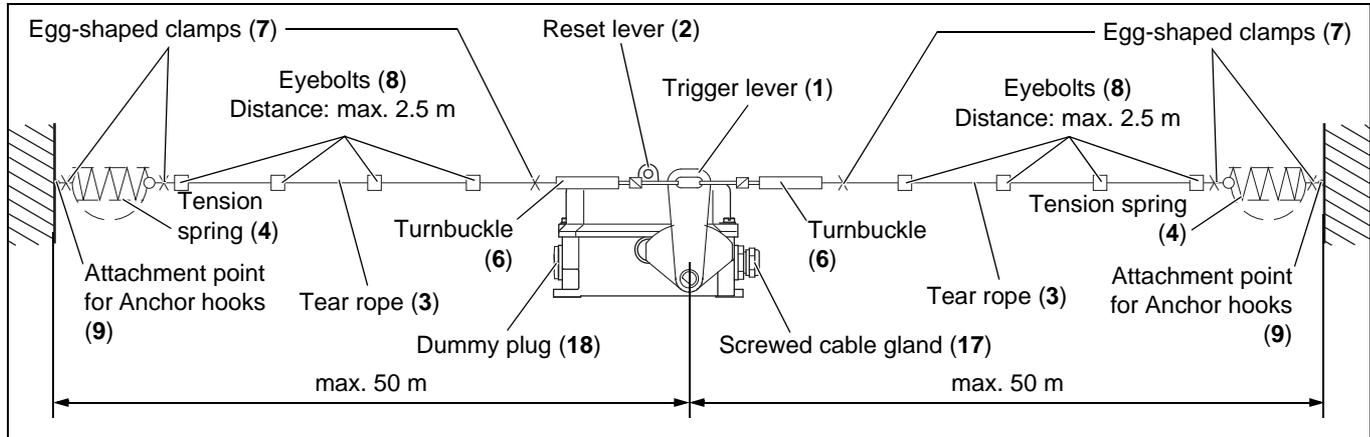

Fig. 5-7: Mounting on the conveyor structure
Centering the Trigger lever (1) makes it resistant to temperature changes. The Tension springs (4) compensate for any extension or contraction of the Tear rope (3) caused by temperature changes (see fig. 5-7).
11. Tighten the Tear rope (3) so that the Tension spring (4) is extended by 35 mm (see fig. 5-7).
12. Attach this end of the Tear rope (3) using an Egg-shaped clamp (7).
13. Remove the Turnbuckle (6) again. Unlock the pull-rope emergency stop switch by using the Reset lever (2) (see fig. 5-7).
14. Repeat steps 5 to 12 for installing the Tear rope (3) on the other side of the pull-rope emergency stop switch.
15. Now hook both Turnbuckles (6) into place and operate the Trigger lever (1) of the pull-rope emergency stop switch.
16. Place the Trigger lever (1) in the middle using the Turnbuckles (6) and adjust the tightened Tension spring (4) to about 210 mm (see fig. 5-7).